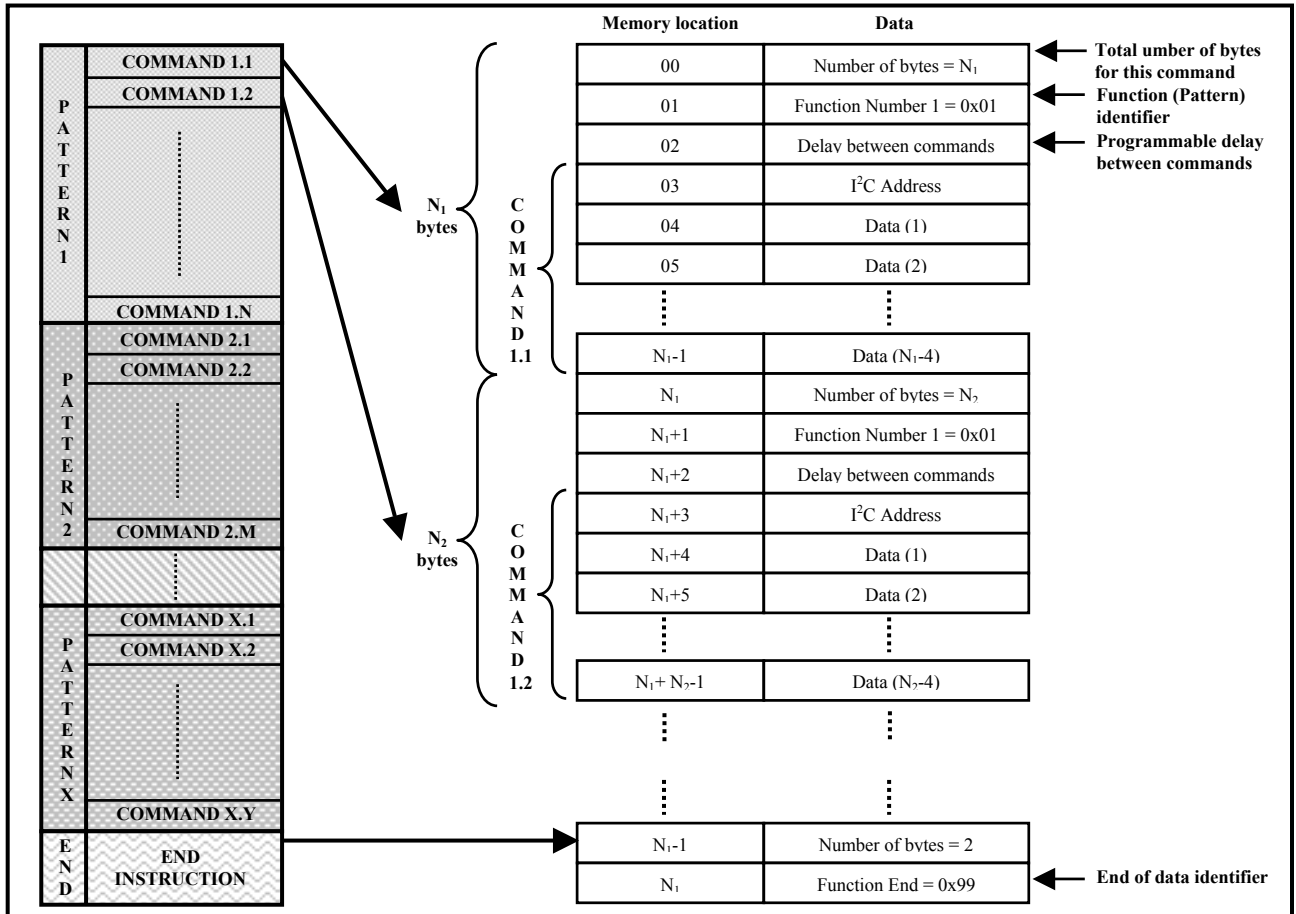

Figure 4. PCF85116 memory organization
- a) Data used to program the PCA9531 is read from the EEPROM. Data organization is shown in Figure 4.